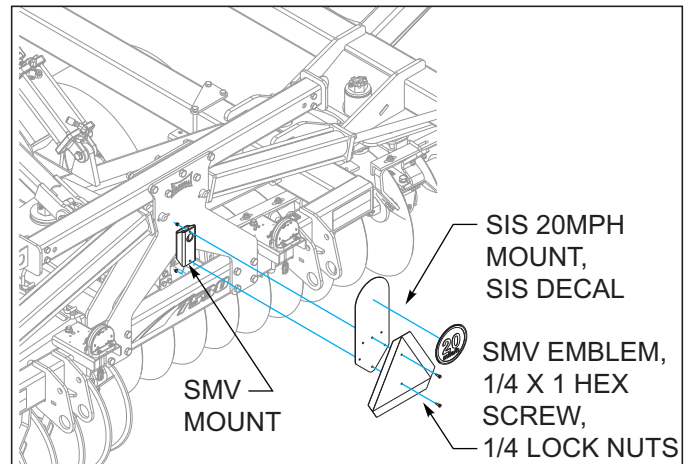

Figure 3-40: SMV/SIS 20mph Instillation
10. Attach smv mount, SIS 20mph mount, SIS decal, smv emblem with 1/4 x 1 hex screws, and 1/4 lock nuts (See Figure 3-40.)